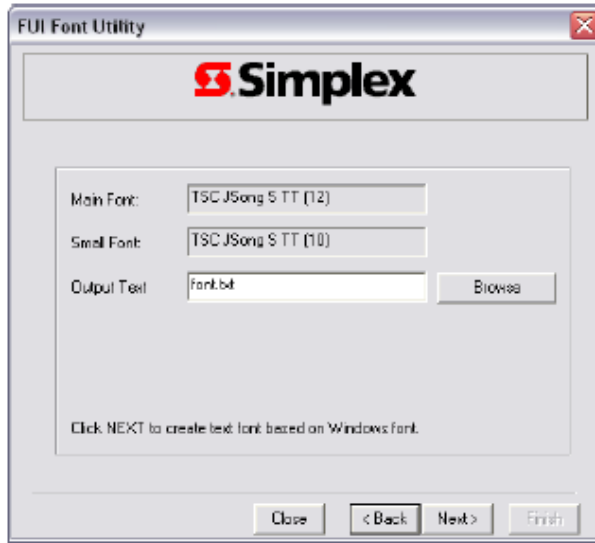

Figure 14-15. Specifying Output Text
6. Click **Next** to continue. A screen similar to the one shown in Figure 14-15 appears.
7. Use the fields and buttons shown in Figure 14-15 as follows: